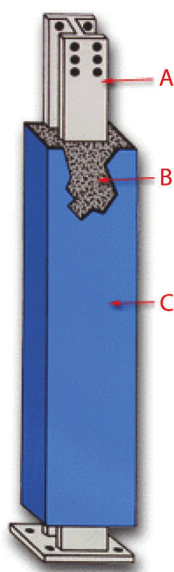

Figure 3: Fire-Trol column elements. Courtesy of Dean Lally, L.P. www.deanlally.com.
Fire-Trol columns are prefabricated members that consist of a load-bearing steel column (labeled A in Figure 3) encased in a special proprietary insulating material (B). An outer non-load-bearing steel shell (C) permanently encloses and protects the insulating material. Fire-Trol columns are shipped to the job site ready to erect and can be specified to achieve up to a four-hour fire rating.